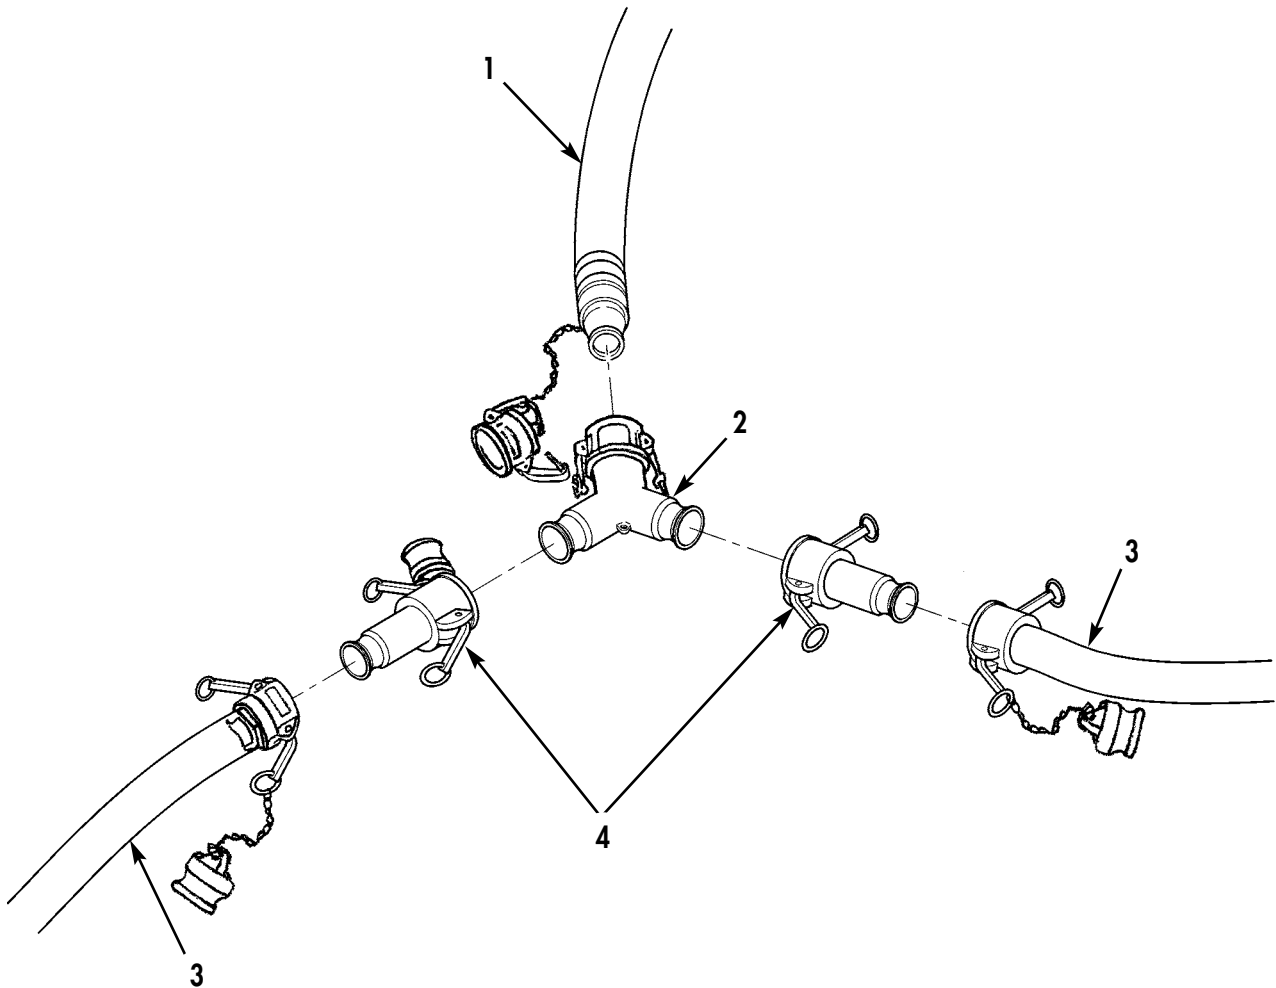

Figure 5. Disconnecting Hoses from Nozzles.
11. Remove two 2 in. (51 mm) DIA x 25 ft (7.6 m) long discharge hose assemblies (Figure 5, Item 1) from two Y-fittings (Figure 5, Item 2). Lift each hose assembly (Figure 5, Item 1) over shoulder and walk hose line to drain water, then install caps and plugs on two hose assemblies (Figure 5, Item 1).
12. Remove four 1.5 in. (38 mm) DIA x 25 ft (7.6 m) long discharge hose assemblies (Figure 5, Item 3) from four reducers (Figure 5, Item 4) and four nozzle assemblies (Figure 5, Item 5). Lift each hose assembly (Figure 5, Item 3) over shoulder and walk hose line to drain water, then install caps and plugs on four hose assemblies (Figure 5, Item 3).
13. Remove four reducers (Figure 5, Item 4) from two Y-fittings (Figure 5, Item 2).